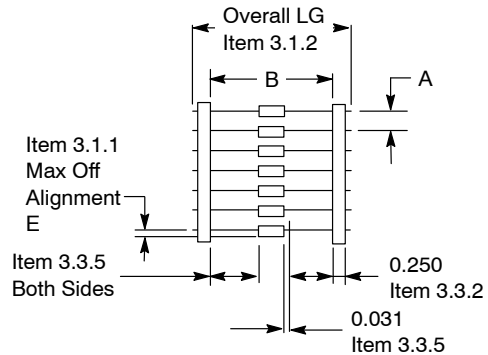

Figure 62. Component Spacing
3.1.1 – Component leads shall not be bent beyond dimension E from their normal position. See Figure 62.
3.1.2 – The "C" dimension shall be governed by the overall length of the reel packaged component. The distance between flanges shall be 0.059 inch to 0.315 inch greater than the overall component length. See Figures 62 and 63.
3.3.2 – Component's leads shall be positioned perpendicularly between pairs of 0.250 inch tape. See Figure 62.